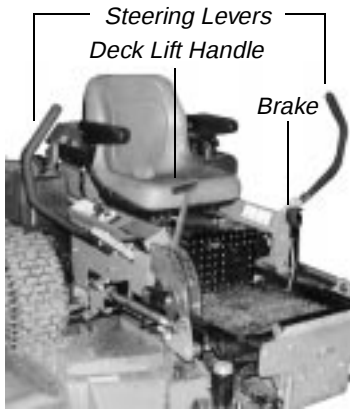

Figure. 3
3. **Left and Right Steering Levers:** (See Figure 3.) These hinged levers open out to the side in the neutral position to permit the operator to be seated or to leave the mower's seat. The operator, when seated, can pull the levers up to the operating position, a comfortable forearm's length away. These levers control all of the movements of the mower. Pushing both levers forward causes the mower to move forward. Pulling both levers back causes the mower to move backward. Pushing one lever ahead of the other lever causes the traction wheel on the side where the lever is ahead to rotate faster than the other traction wheel, making the mower turn toward the side where the lever is behind. When one lever is pushed forward and the other lever pulled back the same amount, one traction wheel will turn in reverse and the mower will turn within its own length.
5. **Parking Brake:** (See Figure 3.) Located on the left side of the traction unit. The handle is an overcenter lever which applies the drum-type brake on each drive wheel when the handle is pulled to the rear. The brake must be engaged in order to start the engine.
6. **Deck Lift Handle and Foot Pedal Lift Assist:** (See Figure 3.) Located on the right front corner of the mowing deck. Raise the mowing deck to the transport position, by pulling the lever to the rear and moving it inward into the stop for transport. To lower the mowing deck, pull the deck lift handle and move it outward. This lowers the deck to the cutting position. The foot pedal lift assist (not pictured above) can provide "lift assist" to the hand lever or with "foot effort only". To provide assistance to the lift handle: remove the detent pin from the pedal assembly. Fold the pedal down to the horizontal position so the hole in the pedal aligns with the hole in the lever. Re-install the detent pin. Pull on the Lift handle and depress the foot pedal to raise the deck. Lifting with "foot effort only" depress the foot pedal (the hand lever will lock into transport position if fully depressed). To release the lift mechanism depress the foot pedal, move the hand lever outward and slowly reduce foot pedal effort to lower the mechanism. To service the unit: Remove the detent pin from the